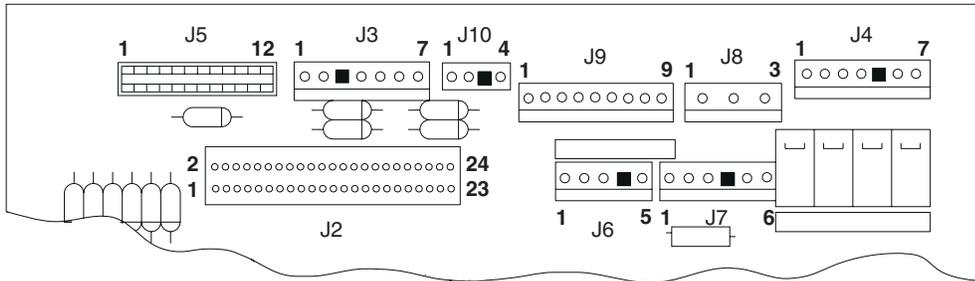

Figure 6-11. Printer Card Connections
– Measure for +5 V DC between J8-2 (negative) and J8-1 (positive) on the printer card. See Figure 6-11 on page 6-18.